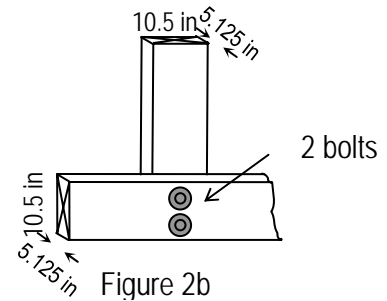

Figure 2b
- The bottom chord that is continuous the length of the truss is connected as shown in Figure 2b. The joints are considered pinned for analysis.